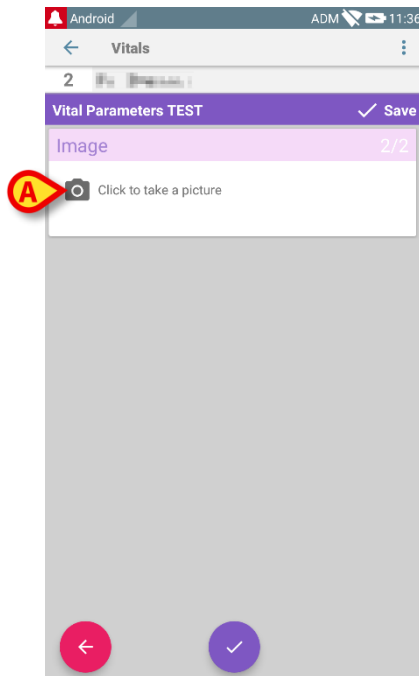

Fig 78
The following screen will open (Fig 78)
- Touch the icon indicated in Fig 78 **A** to activate the camera (Fig 79).
2. keep the picture and go back to the photo acquisition page (Fig 78);
3. discard the picture and go back to the photo acquisition page (Fig 78).